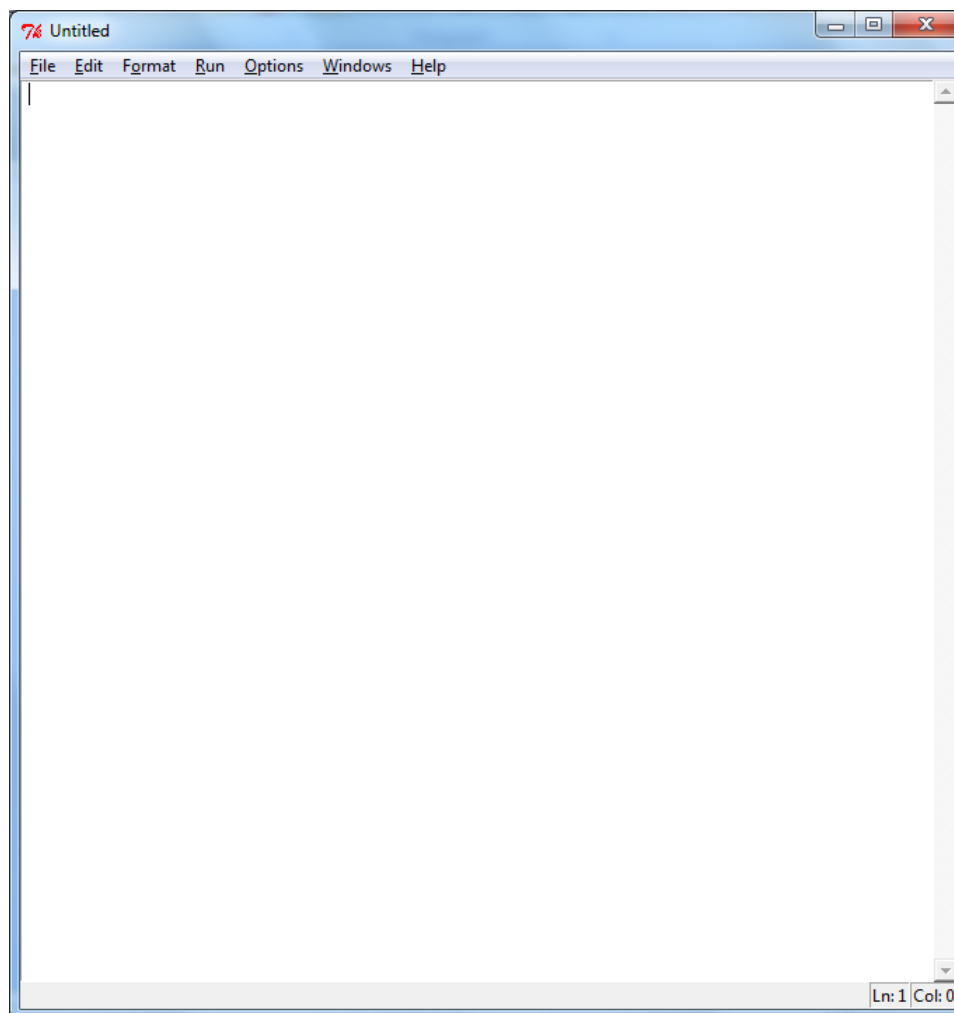

Figure 2-38. Python IDLE Window
- The Python IDLE window appears as shown in Figure 2-38.